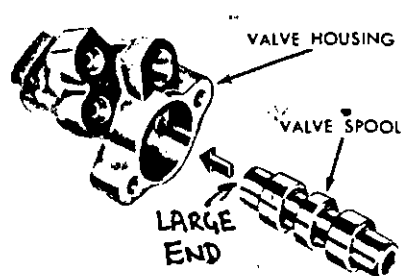

FIG. 42 —Inserting Valve Spool
8. Insert the valve spool in the valve housing. Rotate the spool while inserting it in the housing (Fig. 42).